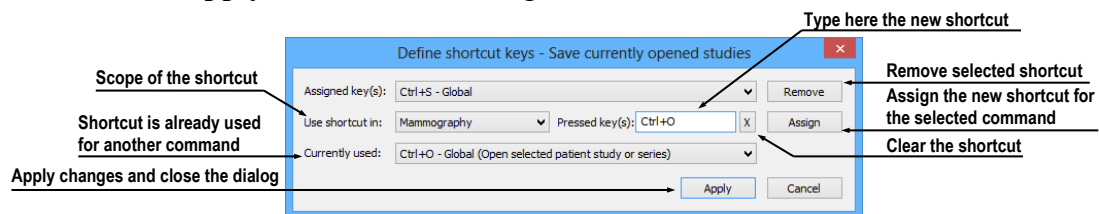

Figure 71 - Define shortcut keys dialog
2. Click **Add**. The **Define shortcut keys** dialog is then displayed (see Figure 71).